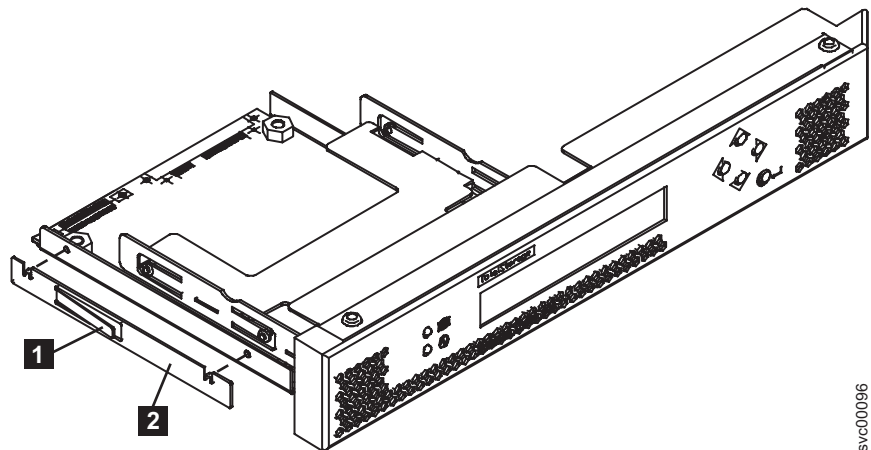

Figure 48. The SAN Volume Controller 2145-8F2 service controller
5. Lift the cage assembly until the blue release latch **1** on the left side of the service controller assembly is accessible. See Figure 48.